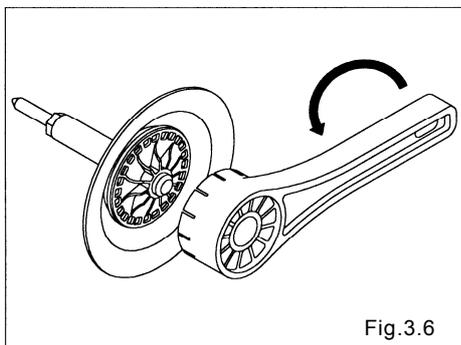

Fig.3.6
- Remove the center disk with supana(21mm), and remove the diaphragm, center disk and O-ring (PC, PT) from the center rod. (AD-10P_ type) [Fig.3.6]
- Remove the center disk with the attached tool (dedicated tool: part No.771244), and remove the diaphragm, center disk and O-ring (_T type) from the center rod. (AD-25P_, AD-25V_ type) [Fig.3.6]
- Remove the center disk with the PP wrench (dedicated tool: part No.771868), and remove the diaphragm, center disk and O-ring (_T type) from the center rod. (AD-40P_, AD-50P_ and AD-50V_ types) [Fig.3.6]